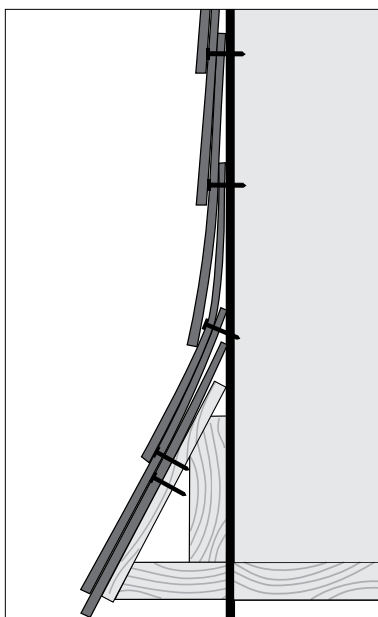

Figure 2
- Install remaining courses in a single layer on the rest of the wall according to the 5" exposure (See Figure 2). Aligning the course hash marks on the shingle you are installing with the TOP of the previous course may give you the proper exposure, but the curve of the shingles may require you to manually check the exposure as you install each shingle to ensure a consistent exposure. Snapping additional chalk lines will help keep your courses straight and level.